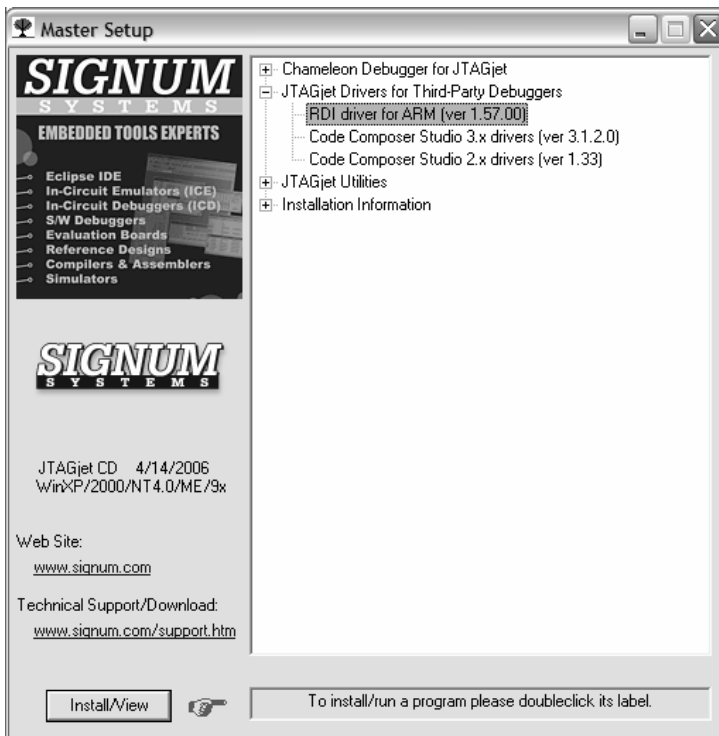

FIGURE 1 Master Setup dialog box.
1. Insert the *Development Tools for Microsoft Windows* CD into the CD-ROM drive. In the Master Setup dialog box, select Drivers/Arm/RDI Driver for Signum Emulators (Figure 1).